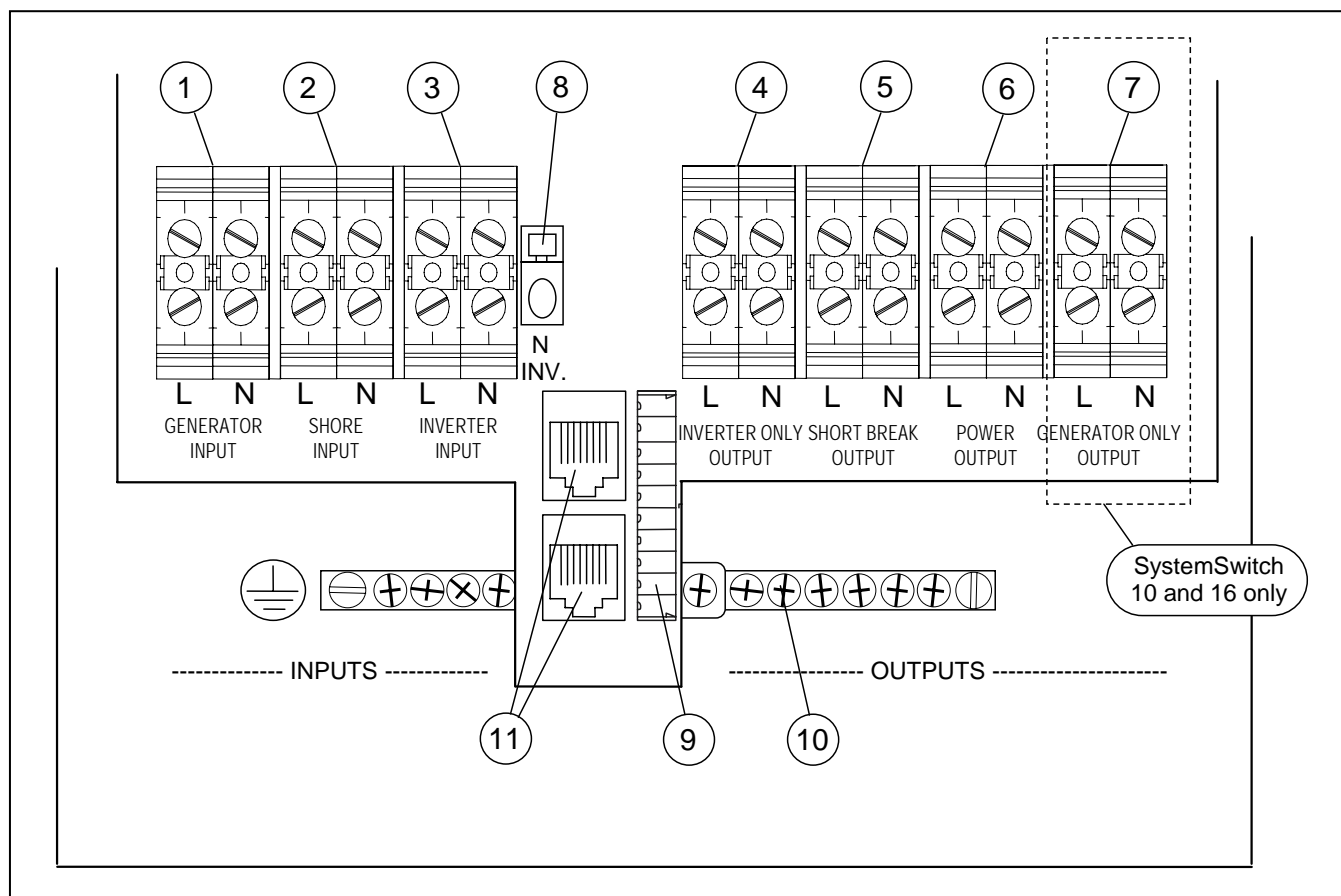

Figure 8
See figure 8 and the table below to connect the AC power sources. Refer to section 3.2 for additional information about the AC inputs
The output terminals are situated on the right hand side. Connect the load to the terminals as indicated in figure 8 and figure 10.
See figure 8. If a Mastervolt remote control panel is applied, you can fix the wires of the 10x0.5 mm² cable from the remote panel to the remote control connector (ref 9 in figure 11) See also section *INSTALLATION* of the manual of the remote control panel.
See figure 8. The *Mass Systemswitch* can be connected to the *MasterBus* network by means of the two data ports (figure 8, reference 11). See also section 5.3 for details.